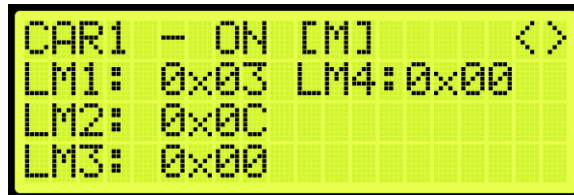

Figure 370: Linked Hall Mask Status
8. From the Linked Hall Mask Status (See Figure 370), press the right button.